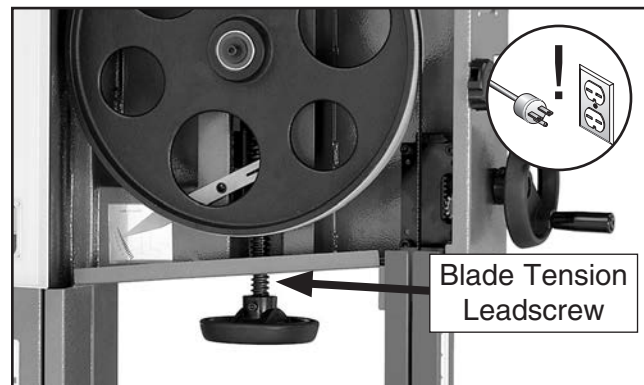

Figure 54. Blade tension leadscrew.
2. Wipe as much of the old grease off the leadscrews (**Figures 54–55**) as possible. The old grease will be contaminated with wood or metal dust, so you want to remove as much of it as possible.